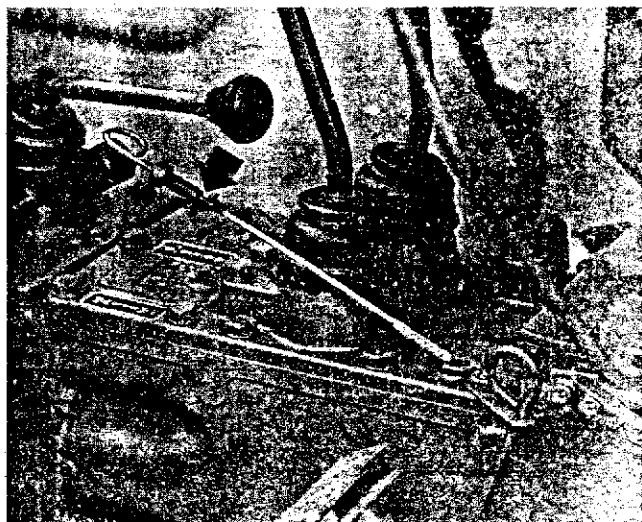

Figure 33 — Transmission, Rear Axle and Hydraulic System Oil Level Dipstick
1. With the tractor standing level and the engine off, check the oil level with the dipstick, Figure 33.